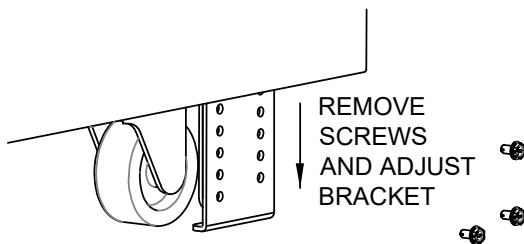

Fig. 4
3. The anti-tip bracket may be adjusted with increments of 12" inches (figure 4). If adjustments of 14" is necessary, flip the bracket and use the holes for re-alignment (figure 4a). Replace the screws.